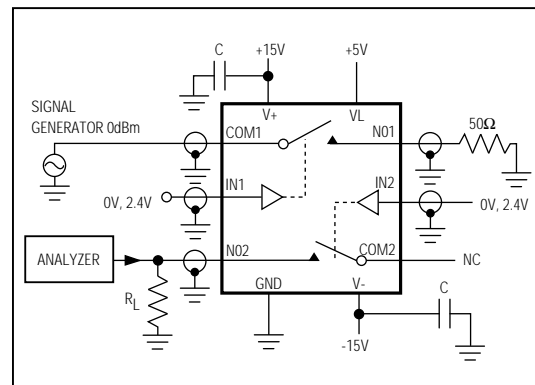

Figure 6. Crosstalk Test Circuit
**Note 7:** Between any two switches. See Figure 6.